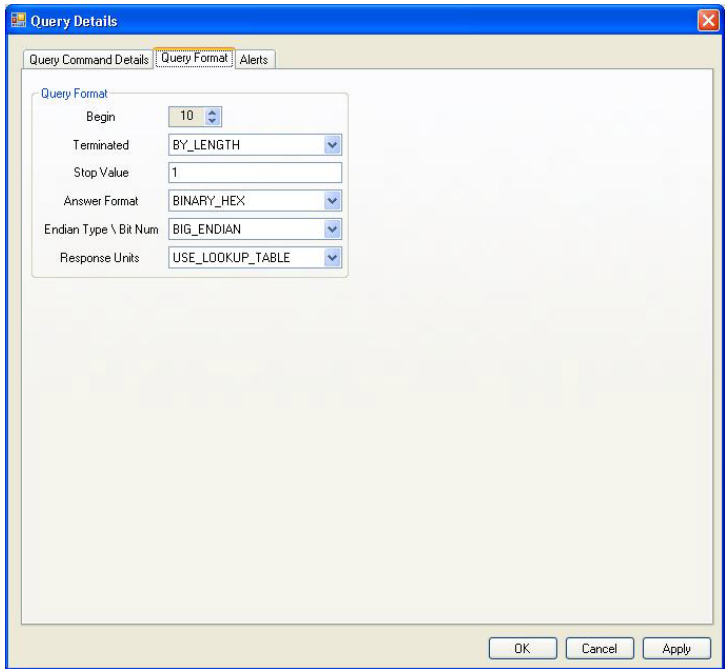

Figure 166: Query Format Window (Power)
4. In the Query Format tab, set the query format, see Figure 166: